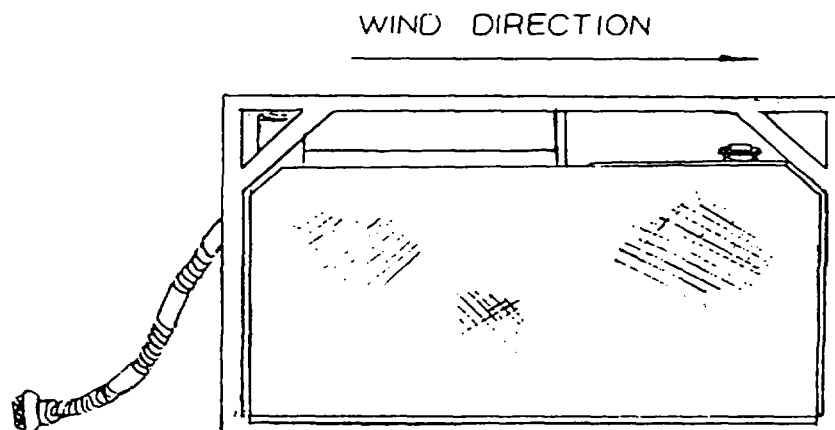

Figure 2-1. Orientation of Compressor Unit with Respect to Wind and Air Intake Hose
b. Connect black plastic hose of pre-filter (supplied with each compressor unit) to the compressor air intake filter (11, Figure 1-3). Locate pre-filter as shown in Figure 2-1